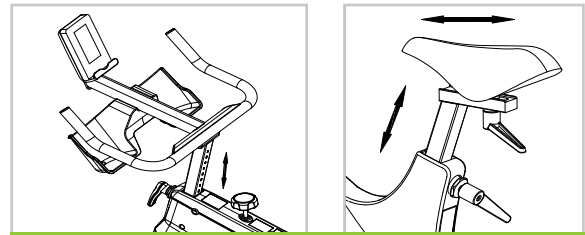

FIGURE 3
Before exercise, adjust position of the handle and seat according to your height. Rotate the adjustment handle to loosen parts in a counterclockwise direction. Rotate the adjustment handle in the clockwise direction to fix parts. The seat and handle can be adjusted in the direction shown in Figure 3.
- When POWER ON or hold RESET key for 2s, buzzer will sound 1s and LCD full display for 2 seconds (Figure1). Then display wheel diameter and unit for 1s (Figure2). Then go to Standby mode (Figure3). And the motor has been settled, it must be reversed to zero, then go to LOAD=1 to wait for each setting.
- Enter (Figure3) screen to select the sport mode, selection order MANUAL -> BEGINNER -> ADVANCE -> SPORTY -> CARDIO -> WATT etc sport modes (recyclable).